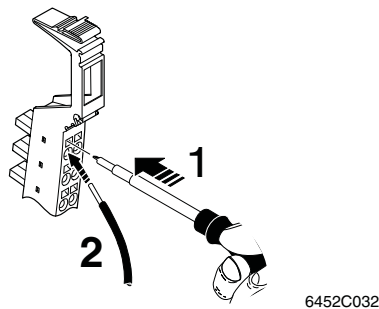

Figure 10-1 Connecting unshielded cables
- Push a screwdriver into the slot of the appropriate terminal point (Figure 10-1, detail 1), so that you can insert the wire into the spring opening. Phoenix Contact recommends using a SZF 1 - 0,6X3,5 screwdriver (Order No. 1204517).
- Insert the wire (Figure 10-1, detail 2). Remove the screwdriver from the opening. This clamps the wire.
- Push a screwdriver into the actuation shaft of the appropriate terminal point (Figure 10-1 on page 119, detail 1), so that you can insert the wire into the spring opening.
- Insert the wire (Figure 10-1 on page 119, detail 2). Remove the screwdriver from the opening. This clamps the wire.